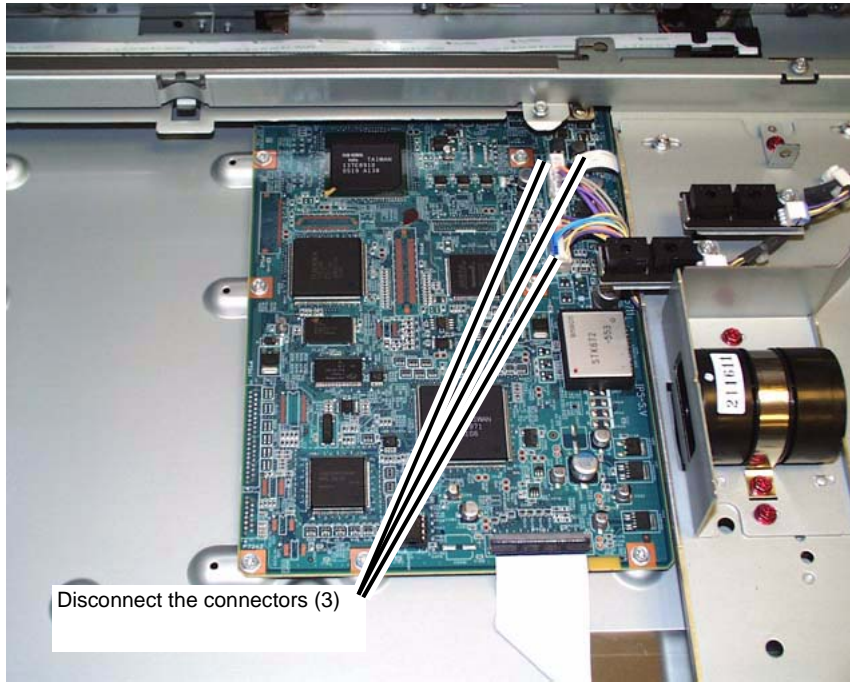

Figure 6 Disconnecting the connectors (4)
1. Remove the screws (2).
8. Disconnect the connectors (3). (Figure 6)